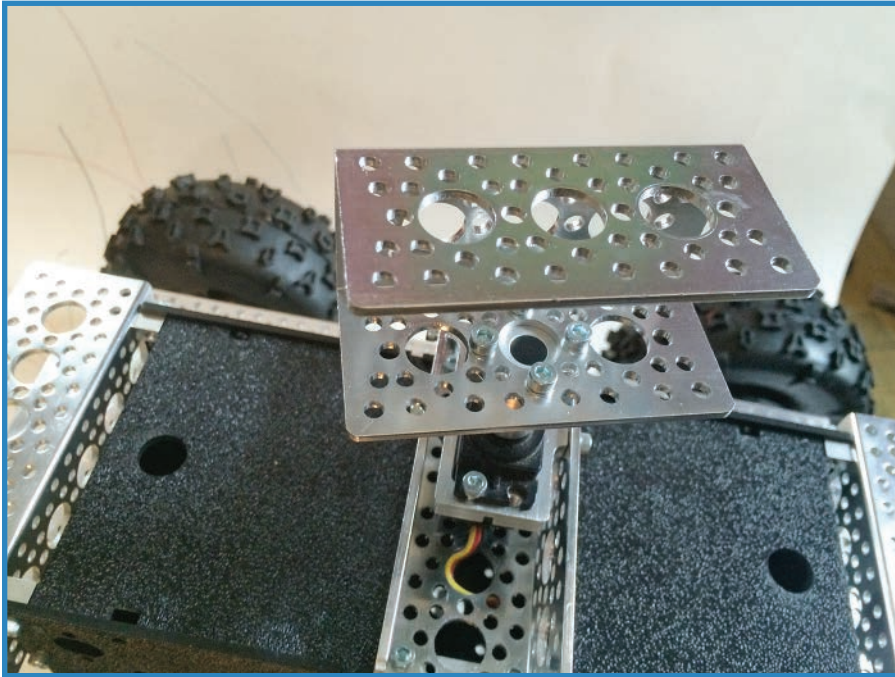

FIGURE 13.23 Add a 3" length of channel.
14. Attach a 3" length of channel to the servo hub, as shown in Figure 13.23. This will be the turret that rotates the ultrasonic sensor.